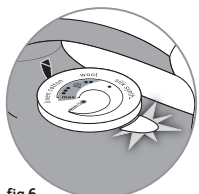

fig.6
- When the iron is plugged in, the temperature control light will remain "on" until the temperature is reached (fig.6). Once the temperature is reached, it will go "off".